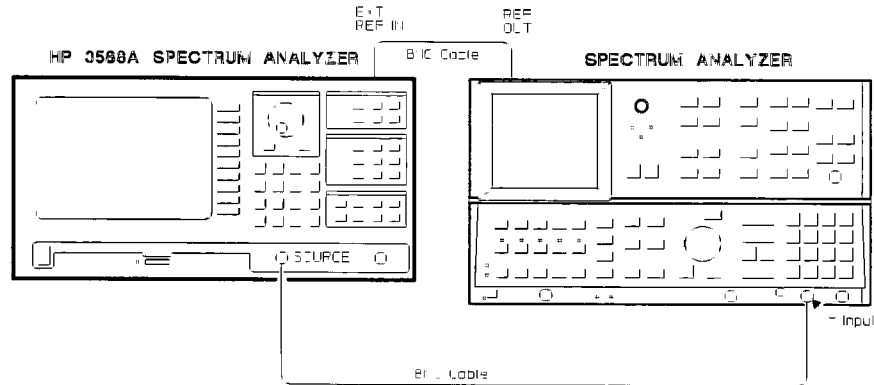

Figure 3-19. Source Noise Setup
1. Connect the test equipment as shown in figure 3-19.